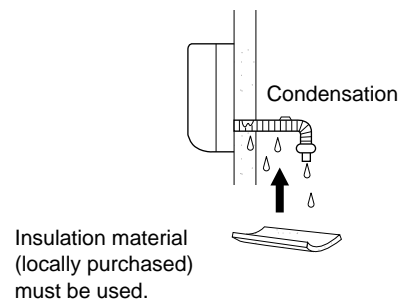

Fig. 31
- If the drain hose will run in the room, insulate the hose with insulation* so that chilled condensation will not damage furniture or floors. (Fig. 31)